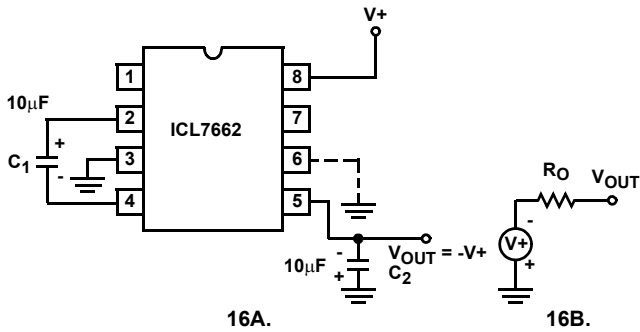

FIGURE 16. SIMPLE NEGATIVE CONVERTER AND ITS OUTPUT EQUIVALENT
The majority of applications will undoubtedly utilize the ICL7662 for generation of negative supply voltages. Figure 16 shows typical connections to provide a negative supply where a positive supply of +4.5V to 20.0V is available. Keep in mind that pin 6 (LV) is tied to the supply negative (GND) for supply voltages below 10V.
ESR also affects the ripple voltage seen at the output. The total ripple is determined by 2V, A and B, as shown in Figure 16. Segment A is the voltage drop across the ESR of C₂ at the instant it goes from being charged by C₁ (current flowing into C₂) to being discharged through the load (current flowing out of C₂). The magnitude of this current change is 2 x I_{OUT}, hence the total drop is 2 x I_{OUT} x ESR C₂ V. Segment B is the voltage change across C₂ during time t₂, the half of the cycle when C₂ supplies current the load. The drop at B is I_{OUT} x t₂/C₂ V. The peak-to-peak ripple voltage is the sum of these voltage drops:
Figure 23 combines the functions shown in Figure 16 and Figure 22 to provide negative voltage conversion and positive voltage doubling simultaneously. This approach would be, for example, suitable for generating +9V and -5V from an existing +5V supply. In this instance capacitors C₁ and C₃ perform the pump and reservoir functions respectively for the generation of the negative voltage, while capacitors C₂ and C₄ are pump and reservoir respectively for the doubled positive voltage. There is a penalty in this configuration which combines both functions, however, in that the source impedances of the generated supplies will be somewhat higher due to the finite impedance of the common charge pump driver at pin 2 of the device.